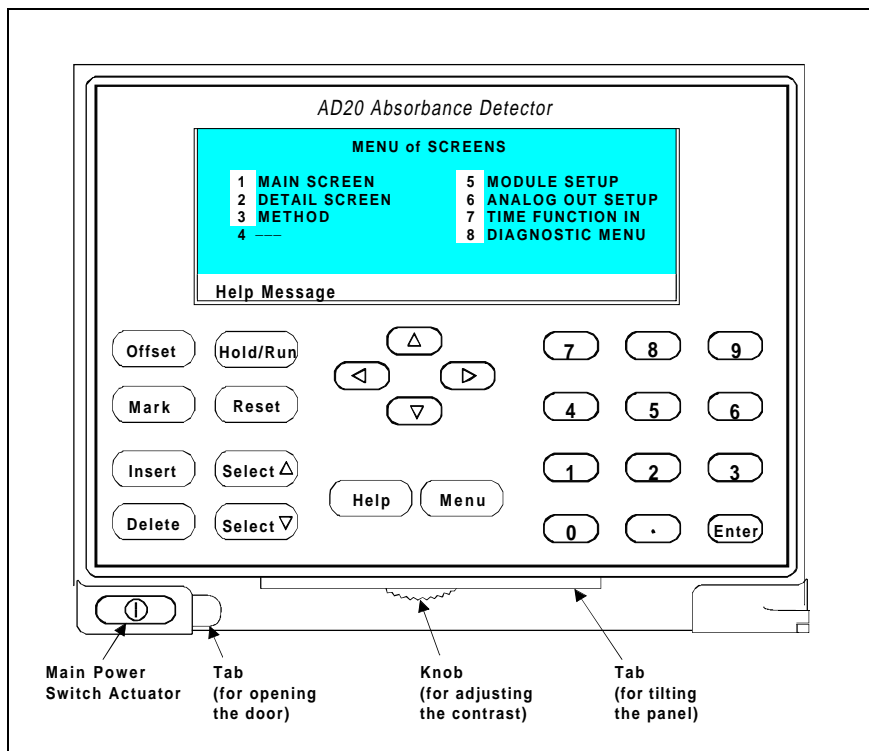

Figure 2-2. AD20 Front Panel
Information is displayed on the LCD, also called the *screen*, in white letters on a blue background. To adjust the screen contrast, use the knurled knob in the recess below the **Help** and **Menu** buttons (see Figure 2-2).
- To tilt the panel, support the door at the left side (to prevent it from opening) and lift firmly on the tab in the recess below the **Help** and **Menu** buttons (see Figure 2-2).
The main power switch is on the bulkhead *behind* the upper door. An actuator for the main power switch is on the outside of the door, at the lower left corner (see Figure 2-2). The actuator functions only when the door is fully closed. When the door is open, press the main power switch on the bulkhead to turn the AD20 on and off.
The front panel keypad (Figure 2-2) is used to control detector operation directly, as well as to create and modify programmed series of timed events, called *methods*.